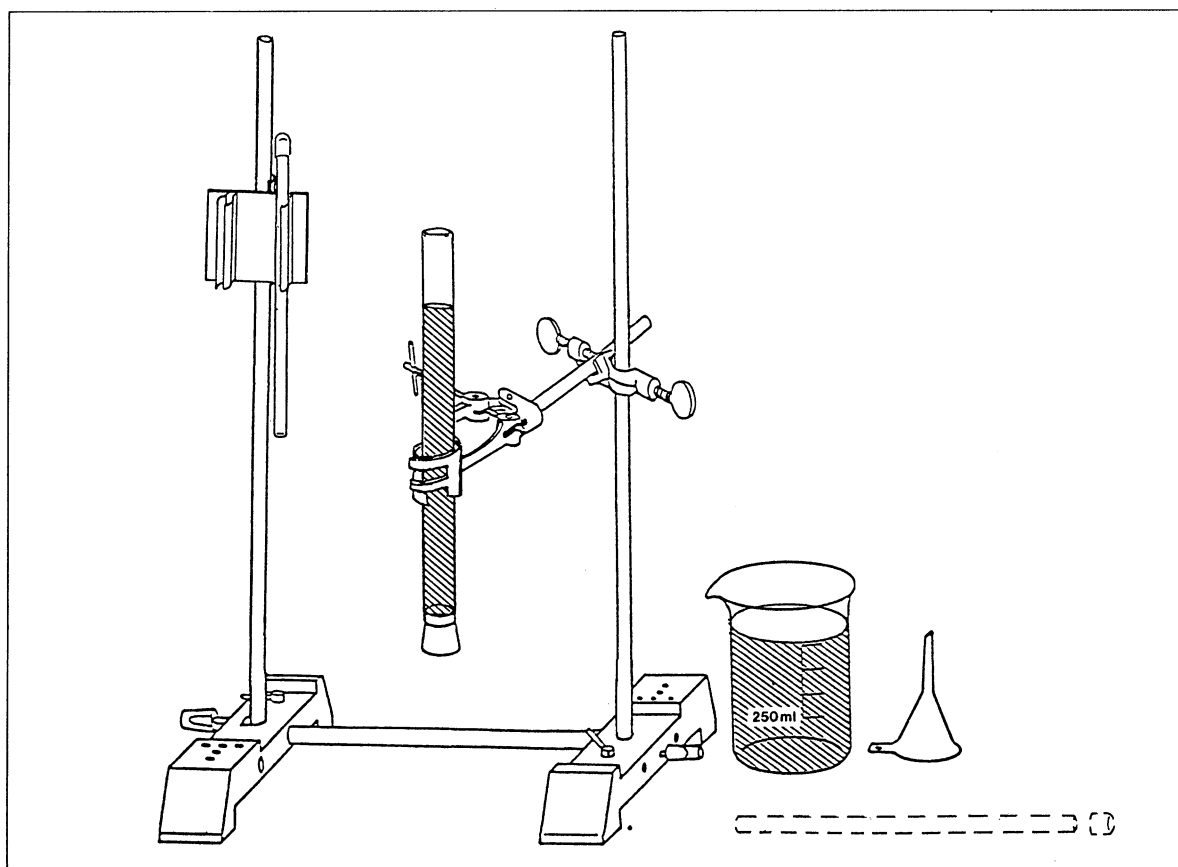

Fig. 1 Setup for investigation into the effects of air pressure.
1. Set up the stand as shown in fig. 1.